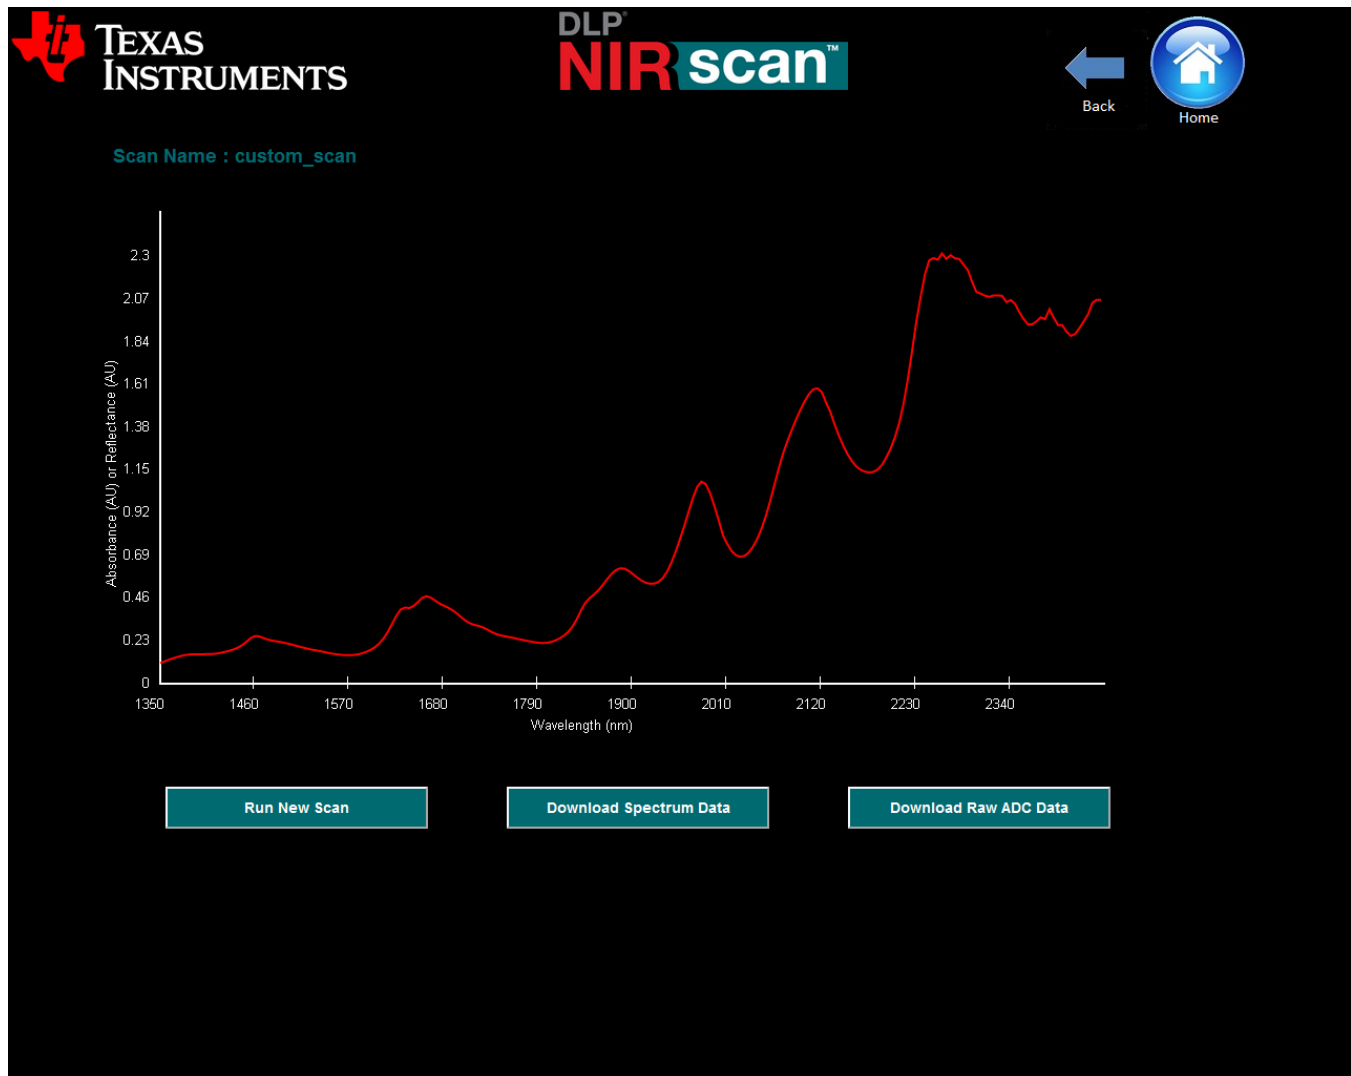

Figure 3-5. Example Custom Scan
6. Select the **Perform Scan** button. The DLP NIRscan then scans the sample, calculates the sample material absorbance, and displays the absorbance in graphical format on the next screen. Figure 3-5 shows an example of this screen.